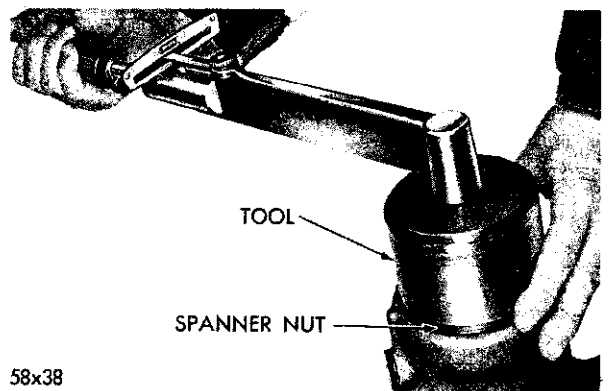

Fig. 13—Removing the Steering Column Support Nut
(8) Turn the worm shaft to the full right turn position to compress the power train parts and remove the steering jacket support nut with Tool C-3634 (Fig. 13).